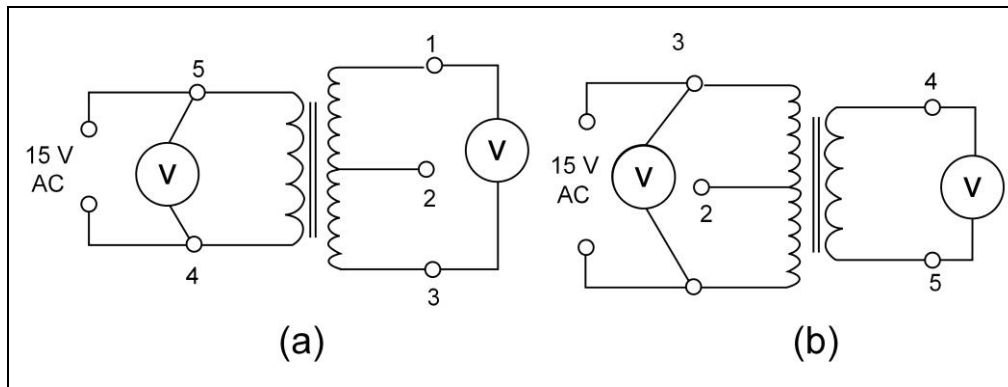

Fig. 1-3 Step-up and Step-down Transformers
9. Connect pins 4 and 5 of the transformer across the 15 VAC source terminals as shown in Fig. 1-3(a). Leave pins 1, 2 and 3 open.
14. Disconnect the transformer. Connect pins 1 and 3 across the 15 VAC source terminals, as shown in Fig. 1-3(b). Leave pins 2, 4 and 5 open.